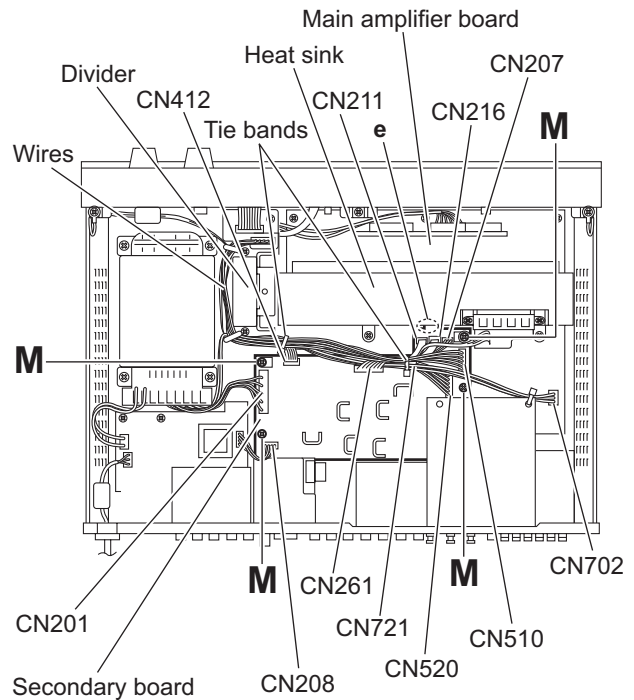

Fig.13
3.10 Removing the secondary board (See Fig.13)